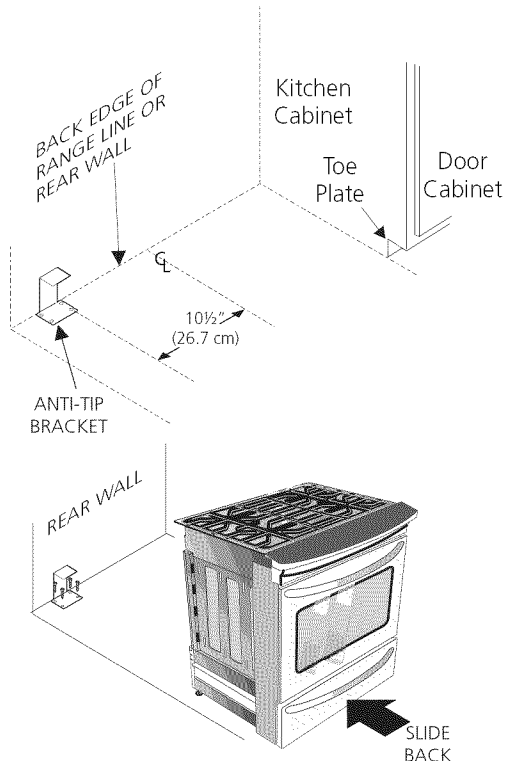

Figure 15
1. Draw a center line (CL) on the floor where the range should be installed. Also draw a line on the floor at the range back position if there is no wall.
2. Unfold paper template and place it flat on the floor with the right rear corner positioned exactly on the intersection of the center and back lines you just drew before. (Use the diagram below to locate brackets if template is not available (Figure 15)).
6. Slide range into place making sure structure of the range is trapped by the anti-tip bracket (Figure 15). Lower the range by adjusting the 4 leveling legs until the underside of the cooktop is sitting level on the countertop. Refer to "Leveling the Range" section.